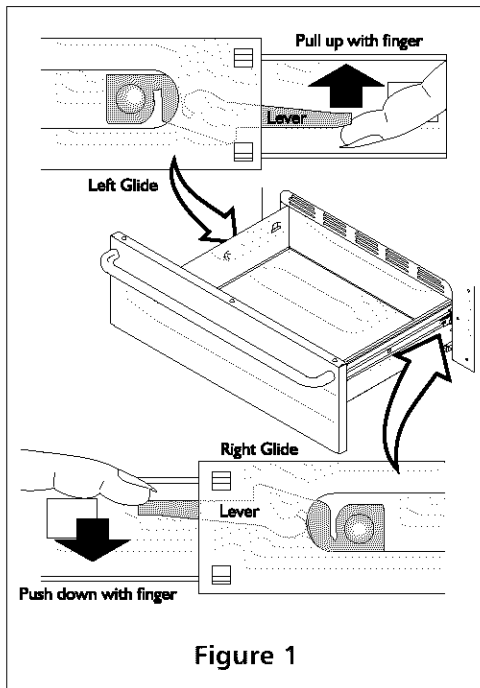

Figure 1
3. Locate glide lever on each side of drawer, pull up on the left glide lever and push down on the right glide lever (see figure 1).
2. Remove the two hold-down screws (Figure 1) at the rear of the oven bottom panel. If the screws are too tight to remove by hand, use a screwdriver.